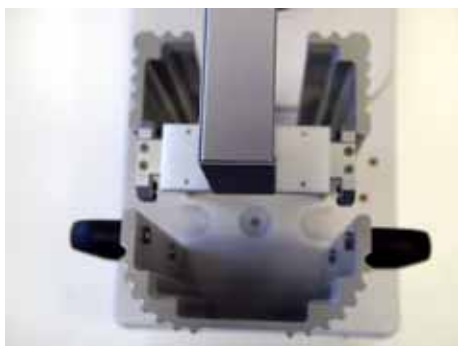

Figure 33 Gripper arm centralized in the rack
- 4 Click **Plus 10** and/or **Plus** to move the arm clockwise, or **Minus 10** and/or **Minus** to move the arm counter-clockwise until the gripper is centralized in the rack, as in Figure 33.